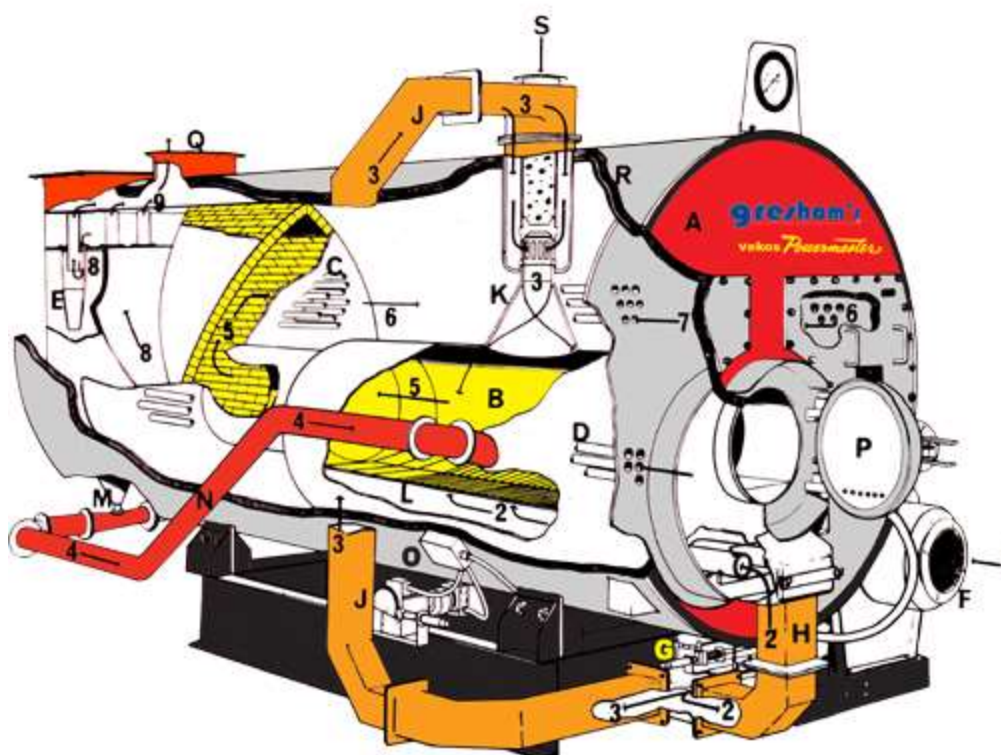

Fig. 2: Cut-away of a Vekos boiler, showing fuel in-feed at the top.
- iii) **Fuel Handling Risk** Wood fuel was introduced to the Vekos boiler through an inlet on top of the combustion chamber, as shown in Fig. 2, and is just visible in Fig. 1. The wood was conveyed from the fuel store to the fuel inlet using pneumatic conveying – so entrained in an air flow inside a pipe, in this case in a 5" water pipe. It was decided